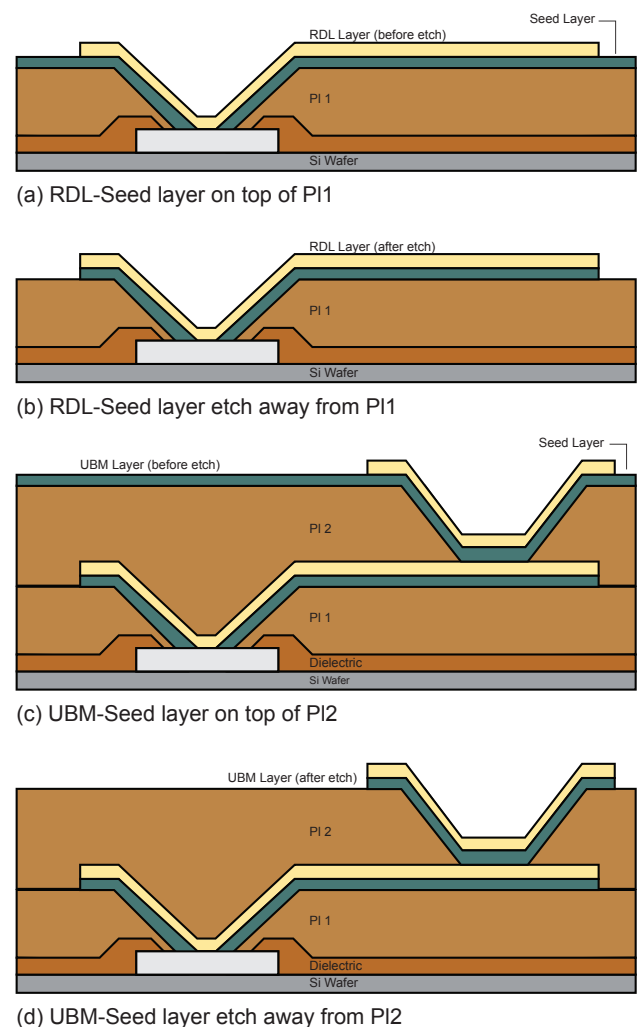

FIGURE 1. Wafer Bumping feature measurement configurations.
Specifically, feature measurement for wafer bumping comprises the following configurations (**FIGURE 1**):
While a strong signal can be derived using the 3D triangular laser signal for Cu feature height measurement after electroplating (Fig. 1, a and c), it is more difficult to establish a stable signal for Cu feature height measurement after the reflective metal seed layer is etched away, and a reference datum needs to be established on the remaining transparent polyimide surface (Fig. 1, b and c). Several conventional methods exist for non-contact measurement of step heights, such as various confocal sensors, triangulation sensors, and scanning white light interferometry. These sensors typically have difficulty differentiating between reflections from the top and bottom surfaces of a layer, that is, layer thickness. This limitation comes from the depth of focus of the objective, which in turn depends on its numerical aperture (NA). Thus, for all these techniques, sensor performance is highly dependent on objective lens.